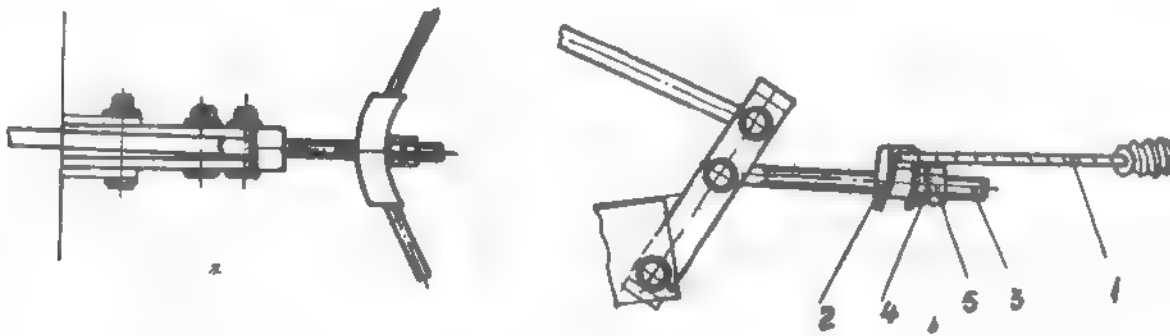

Fig. 2.41. BOWDEN CABLE TENSION ADJUSTING SYSTEM FOR HAND BRAKE CONTROL.
- Loosen parking brake Bowden cable pushing forwards brake control handle and then slacking nut (4) and lock nut (5) - (see fig.2.41), unscrewing both untill the cable is loosened, i.e. up to the end of adjusting rod (3) (access from car underside).